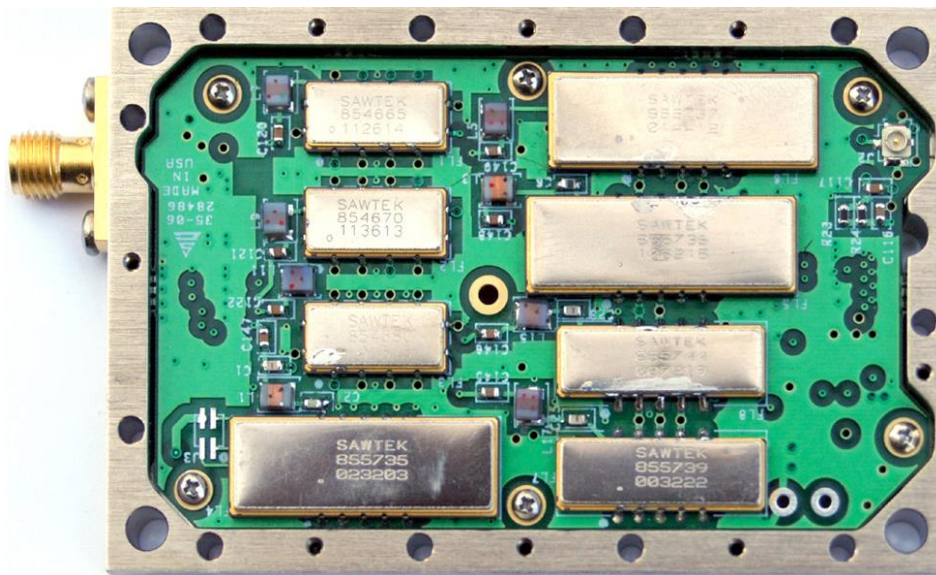

Figure 105: 70 MHz IF Module in 2" x 3" Chassis
The receiver's integrated IF filter module, shown in Figure 105, includes eight (8) SAW filters, ranging in bandwidth from 250 kHz to 40 MHz in approximately one-octave steps. The standard eight filters are 250 kHz, 500 kHz, 1 MHz, 2 MHz, 4.5 MHz, 10 MHz, 20 MHz, and 40 MHz. These filters serve as anti-aliasing filters ahead of the A/D converter in the demodulator itself. In addition, they can provide an added measure of adjacent channel interference rejection.